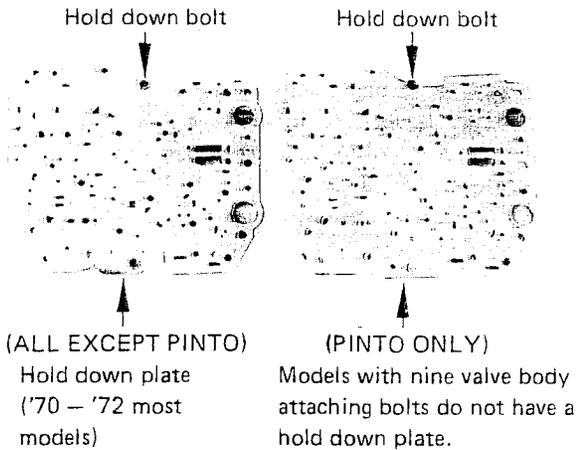
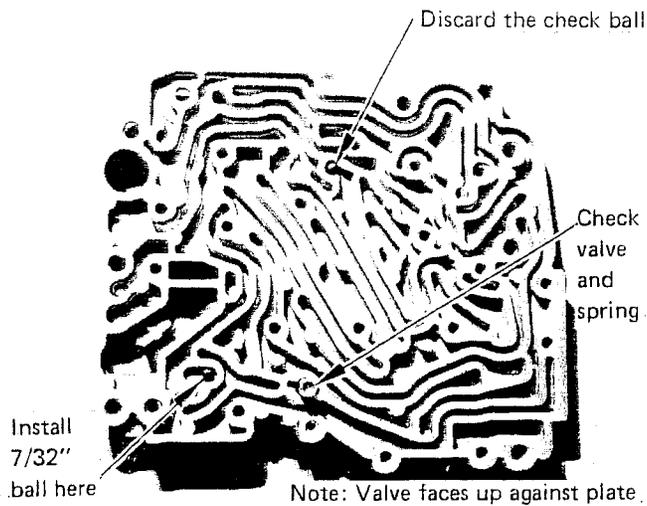

FIGURE 7
FIGURE 9A (PINTO ONLY)
STEP 11. Place the transfer plate assembly in front of you with the separator plate up. (See Fig. 7) Note the position of the hold-down plates. Remove the hold-down plates and the separator plate. Pinto only: There will be a check valve and spring under the separator plate. Remove it and set it aside.
STEP 14. Lay the transfer plate in front of you with the passages up. Install one 7/32" diameter ball in position shown in Figure 9. Pinto only: Install check valve and spring as removed with face of valve against separator plate. (See Fig. 9A) Install separator plate in place on transfer plate. Do not use a gasket. Install hold-down plates in their proper positions. (See Fig. 7) Install bolts in place and tighten bolts finger tight.